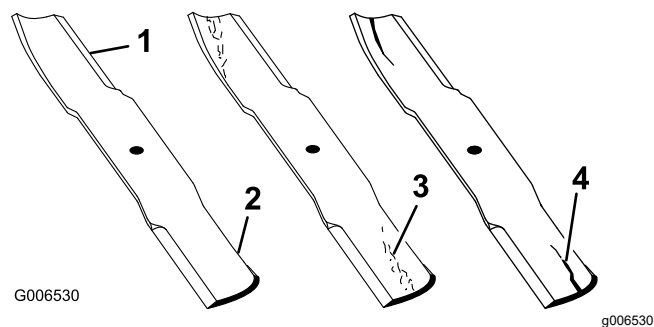

**Figure 56**
1. Inspect the cutting edges (Figure 56).
4. If you notice any cracks, wear, or a slot forming in this area, immediately install a new blade (Figure 56).